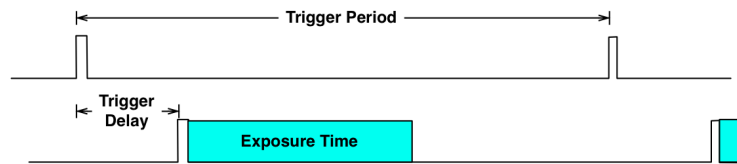

Figure 2-37. Relationship Between Trigger Period, Trigger Delay, and Exposure Time
- HW pattern: display a pattern sequence created from hardwired (HW) patterns. See Section 2.8.1.1 for more details.
- Trigger delay: number of microseconds delay after trigger is received and pattern is displayed. See Figure 2-37.
- Exposure time: number of microseconds the pattern is displayed. Input 0 to display the pattern through the whole trigger period. See Figure 2-37.
- Trigger period: number of microseconds delay between two consecutive patterns. See Figure 2-37.